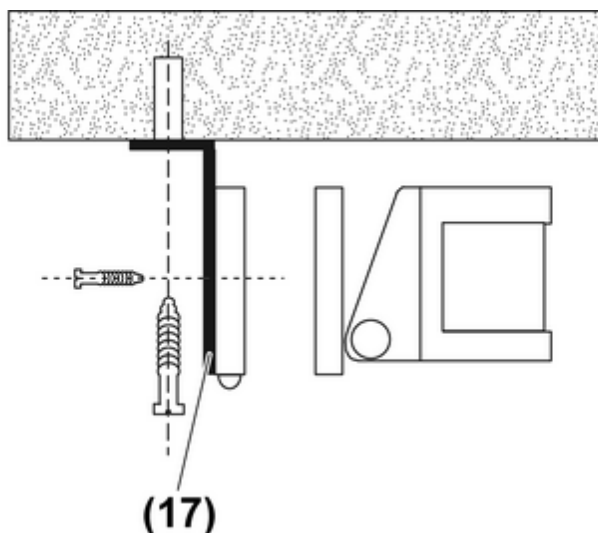

Figure 16: Ceiling installation
- For ceiling installation, a mounting bracket (17) is necessary (Figure 16) (see "Accessories").